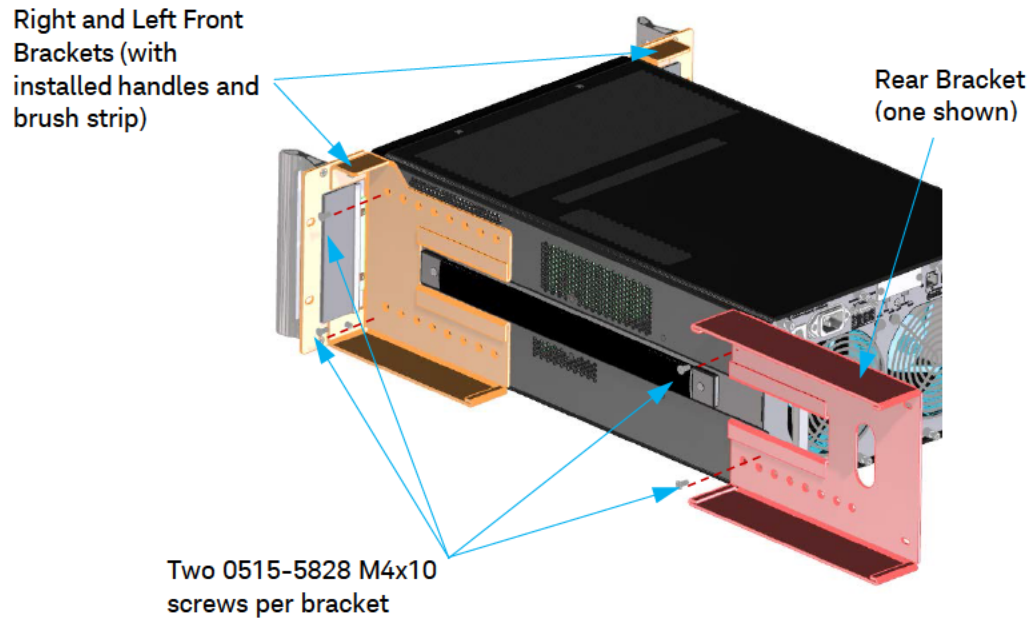

Figure 6 Attach Front and Rear Brackets to Chassis
- 3** Assemble Right and Left Front Brackets and Rear Brackets to the chassis. Use two 0515-5828 M4x10 screws per bracket. Use the front mounting holes (as shown in Figure 6) to flush-mount the chassis to the front of the rack. Match the holes in the front and rear brackets for the desired depth of installation. See Figure 6.